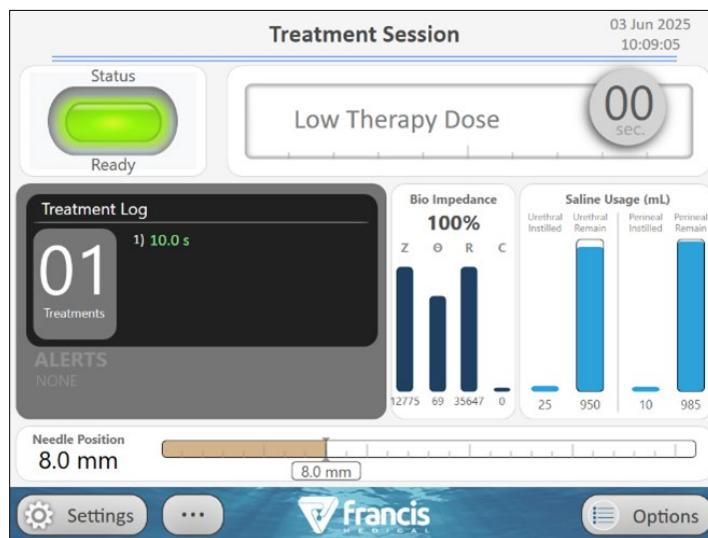

Figure 11-20: Status Ready Indicator
8. At this stage, Status Ready indicator turns green on the Treatment Session screen (Figure 11-20).